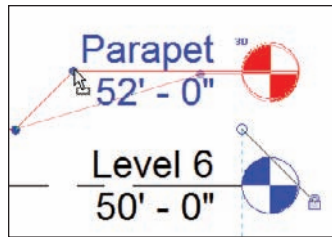

FIGURE 3.15 Making the final adjustments to the level
4. The line of the level will still be in the way. Notice the two blue grips are still available. Pick and drag the horizontal line out of the way of the Parapet text, as shown in Figure 3.15.